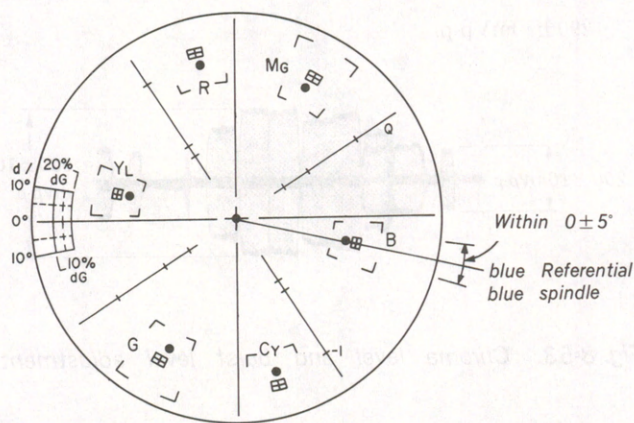

Fig. 8-55.
- 1) Turn RV002 to minimize the blue vector deviation (within $0 \pm 5^\circ$) from the referential blue spindle (Fig. 8-55).